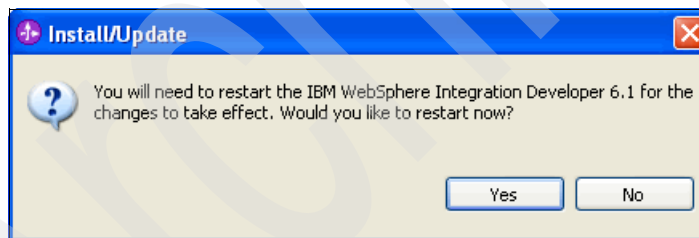

Figure 8-43 Clicking Yes to restart WebSphere Integration Developer
12. After the installation completes, when you see the Install/Update message window (Figure 8-43), click **Yes** to restart WebSphere Integration Developer.